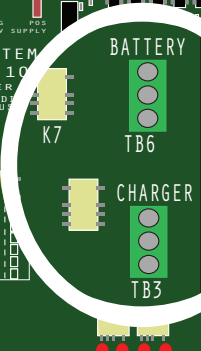

Figure 2-5
The Battery Remote Sense Terminals (TB6) are located on the right side of the Interface I/O Board (A2). See Figure 2-5. They connect Bruno directly to the battery, reducing voltage drop found in long wire runs, and are used to sense precise battery voltage.
Bruno currently features two (2) different remote voltage sense contacts for creating direct (and more precise) signal connections to system voltage sources (e.g. charger and battery). These contacts are accessed via two (2) terminal blocks (TB6/TB3) on the right side of the Interface I/O Board (A2). See Figure 2-5.